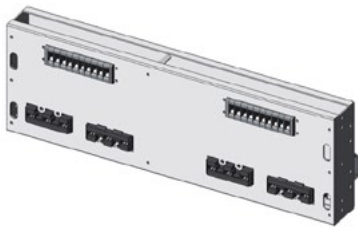

Figure 3 GPJD-6-1/2-63A/3 Power distributor - Rear Outlet Pattern
| GPJD-6-1/2-63A/3-540x135-298-8H(10H) | 540              | 160              | Steel panel                        | 16 (20)                           | Rear outlet | Figure 3              |